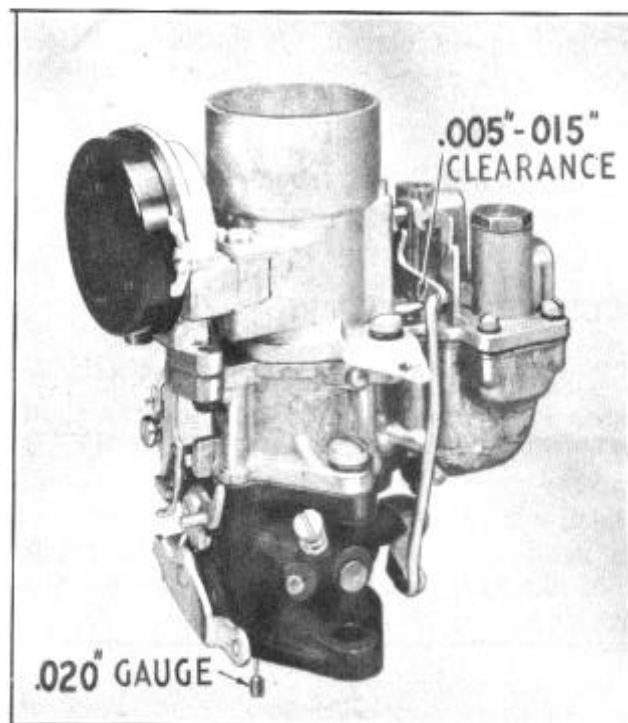

FIGURE 5
1. Crack throttle valve .020" by placing gauge J-1633 (Carburetor No. T-109-29), between throttle valve and bore of carburetor on side opposite the idle port, Figure 5.